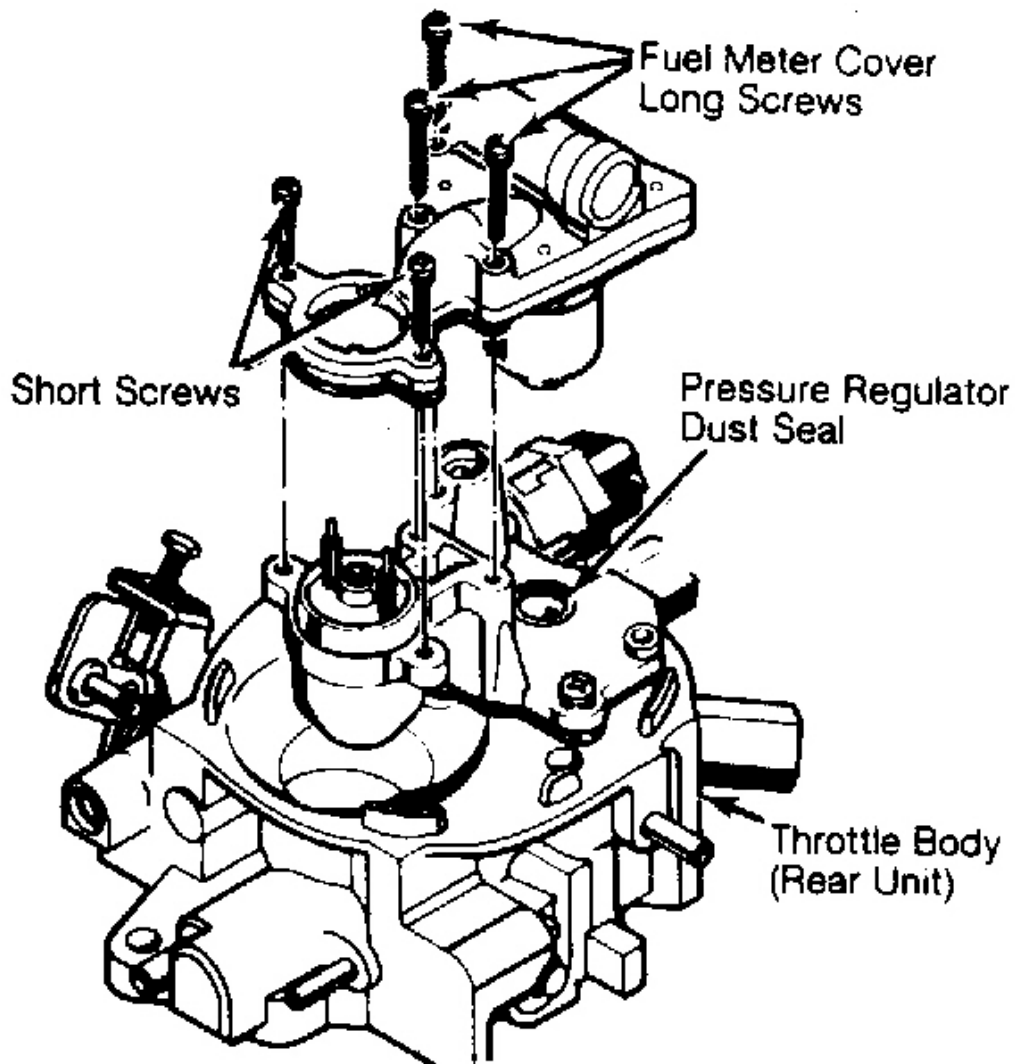

Fig. 6: Removing Fuel Meter Cover Assembly Do not remove fuel meter cover gasket at this time.
2. **DO NOT** remove fuel meter cover gasket at this time. See **Fig. 6** . Remove fuel pressure regulator (rear unit) or accumulator (front unit) dust seal from fuel meter body.